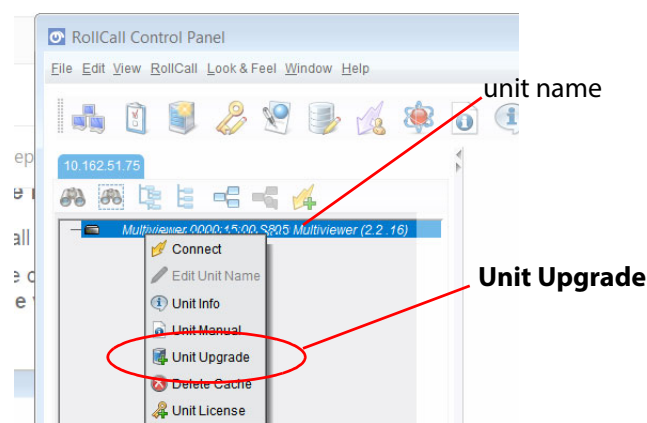

Fig. 10-8: Right-Click Menu
- 1 Right-click on the connected unit name in the RollCall Control Panel window. See Figure 10-8.